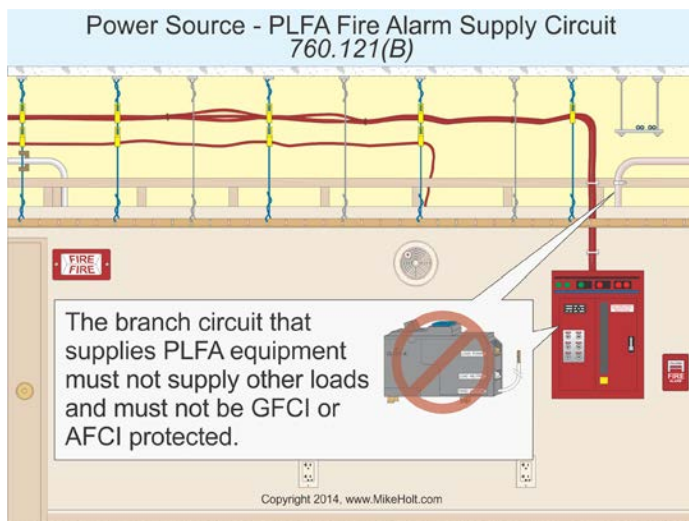

Figure 760-14
**(B) Branch Circuit.** Power-limited fire alarm equipment must be supplied by a branch circuit that supplies no other load and isn't GFCI or AFCI protected. Figure 760-14